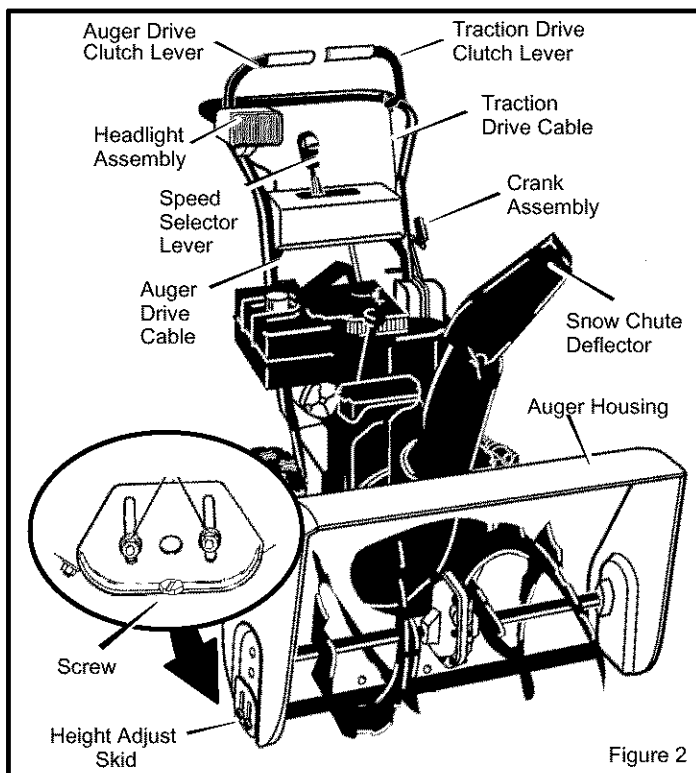

Figure 2
Figure 2 shows the snow blower completely assembled.
7. For shipping purposes, the **height adjust skids** are attached to the pallet. Remove the **screw** that secures each **height adjust skid** to the pallet. (See Figure 2).